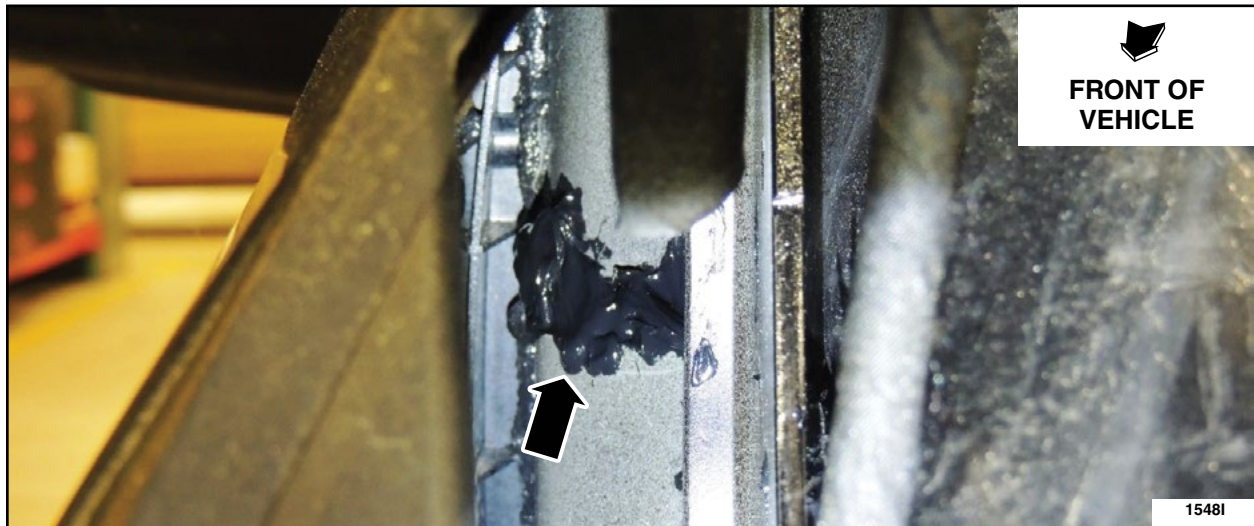

FIGURE 12
13. Carefully inspect the bead of seam sealer to ensure it completely fills the gap in the sheet metal panels. Apply additional seam sealer if required to ensure a leak free joint is attained. See Figure 12.